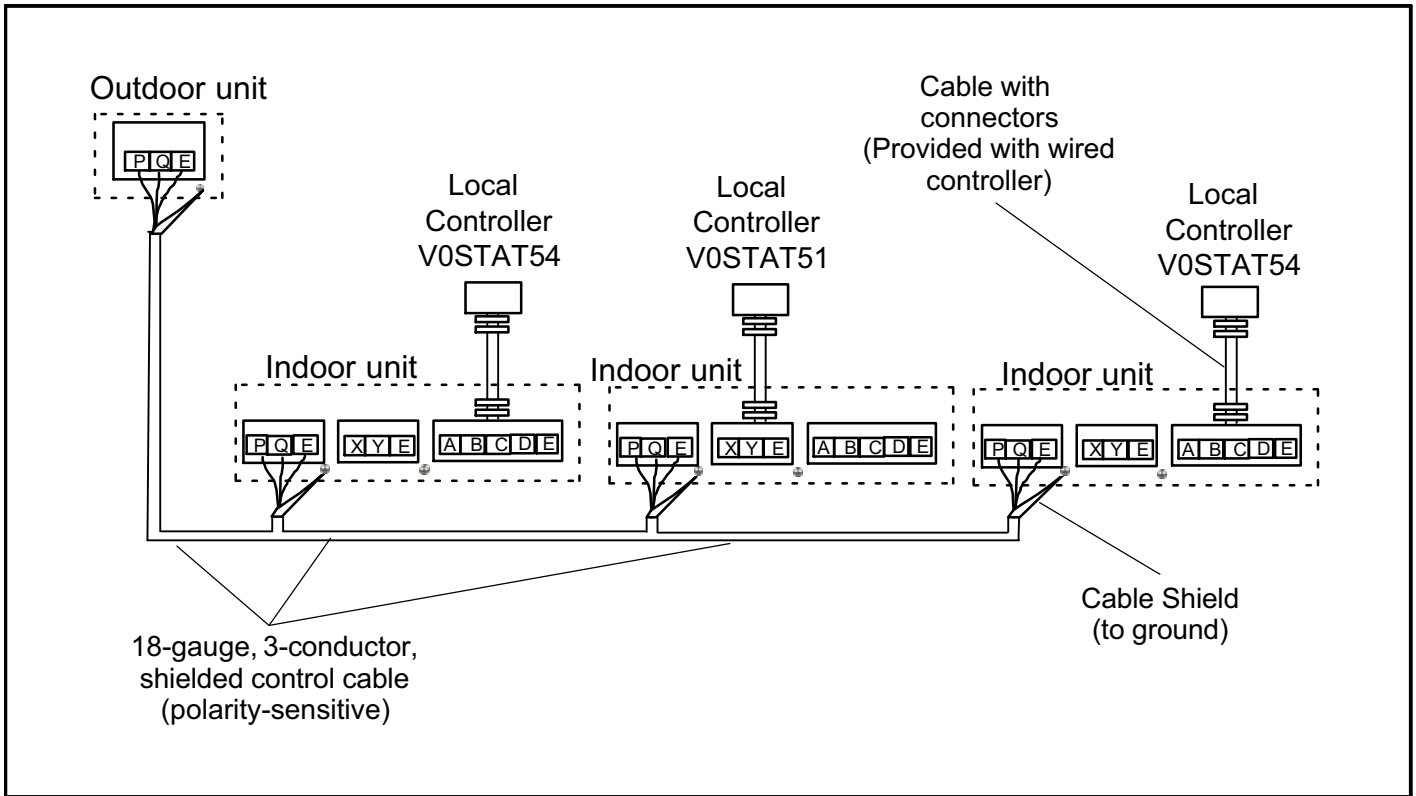

Figure 7. Typical Low-Voltage Field Wiring
- 2 - Locate the terminal strip in the outdoor unit control box. Connect the power wiring (sized per NEC/CEC and local codes) and communications cable (**three-core, shielded cable**) per figure 7. Refer to unit nameplate for rated voltage.